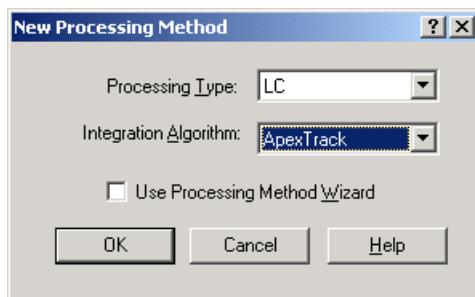

Figure C-6 New Processing Method Dialog Box
2. Select **File > New > Processing Method**. The New Processing Method dialog box appears (Figure C-6).